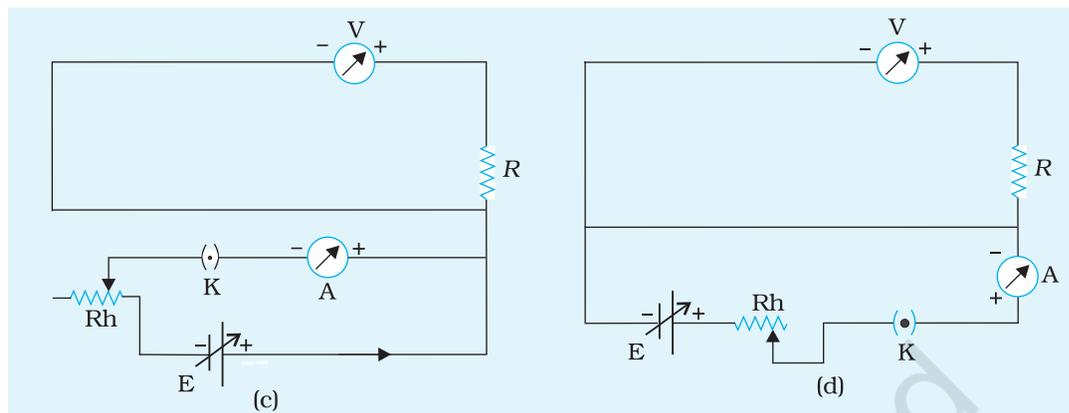

Fig. A 2.1 (a),(b),(c),(d) Open circuits
An open circuit means a break in some part of a circuit which could be deliberate such as a key in open position or a fault such as broken wire or burnt out component(s) or loose connection. Some of such circuits are given in Figs. A 2.1 (a), (b), (c) and (d).
1. Draw the circuit diagrams in your notebook as given by your teacher [Fig. A 2.1(a), (b), (c) and (d)].